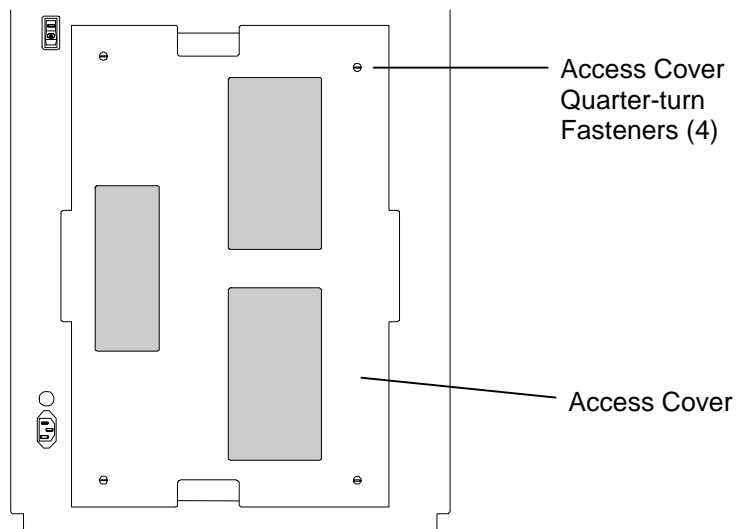

Figure 7-22 Access Cover on Rear of TLS
3. Use a flat blade screwdriver to loosen all four of the quarter-turn fasteners and carefully remove the access cover on the rear of the TLS (Figure 7-22).
16. Align the access covers four quarter-turn fasteners with corresponding receptacles on the rear of the TLS and then using a flat blade screwdriver, tighten the fasteners to secure the cover. See Figure 7-22.